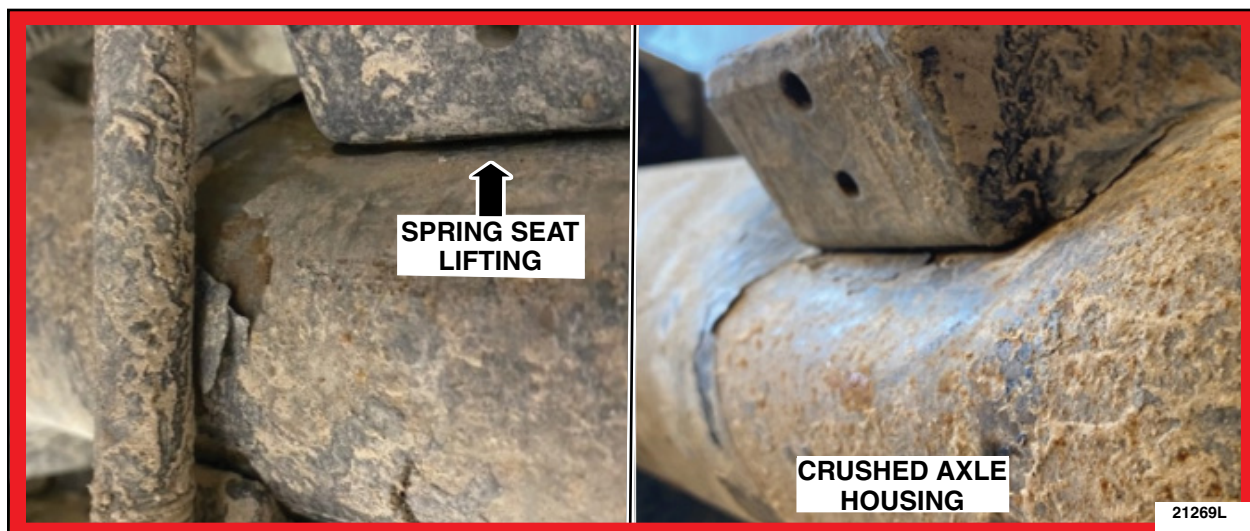

FIGURE 1
**NOTE:** This inspection is to be performed on the Left Hand (LH) and Right Hand (RH) leaf spring seat brackets.
3. Visually inspect the front of the rear axle housing assembly below the leaf spring seat brackets for damage (dents, creases). See Figure 1.
4. Visually inspect the rear of the leaf seat spring bracket for damage (rips or breaks in the metal or welds) and to see if the leaf spring seat bracket is pulling away from the rear axle housing assembly. See Figure 1.